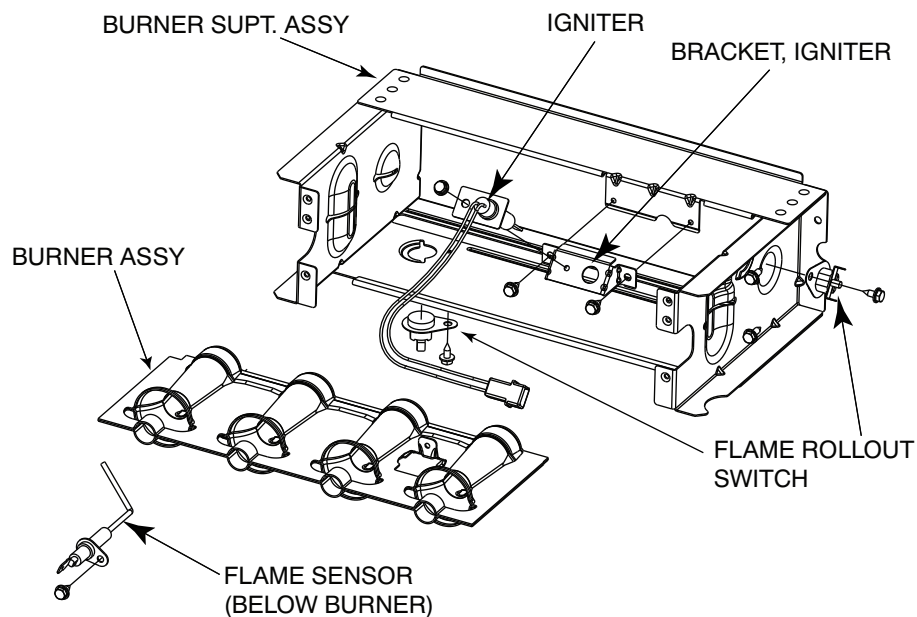

Fig. 68 - Burner Assembly
6. Remove screws attaching burner assembly to cell panel. See Fig. 68.